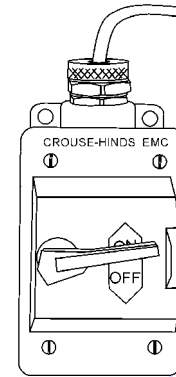

Figure 20. Power ON/OFF Switch (ON)
- Turn the power **ON/OFF** switch (Figure 20) to the **ON** position with the blade away from the material to be cut, the cutting blade should begin to rotate. Before cutting, remember to follow all safety rules referenced in this manual.